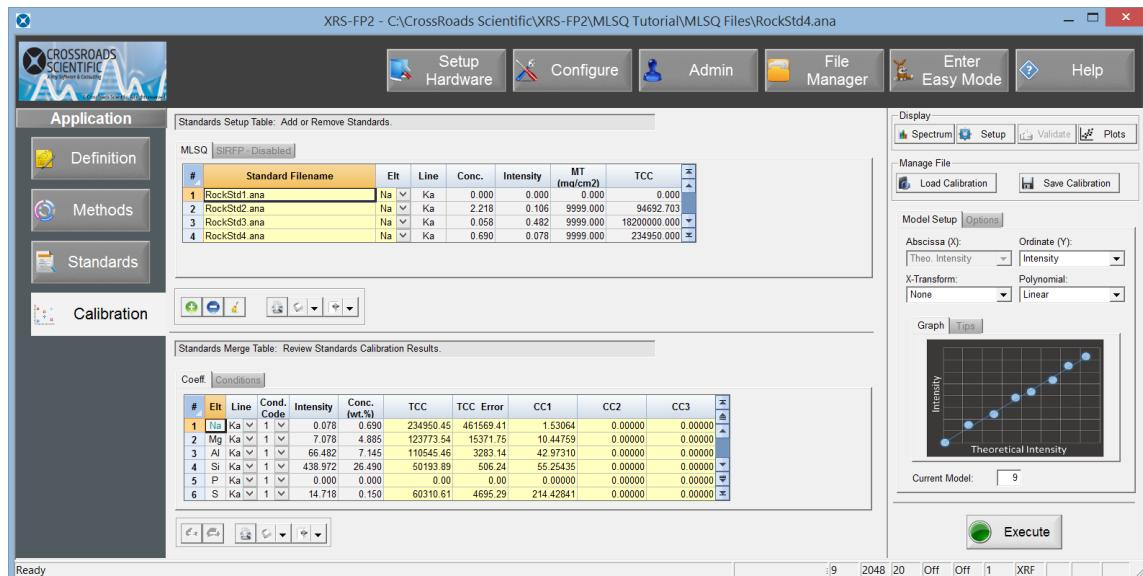

Figure 5. Application Workflow – Calibration. Add all the single standard ANA files to be used for the multipoint calibration (MLSQ).
15. Double click in the MLSQ “Standard Filename” column to load the ANA filename to be used for the MLSQ calibration (eg. “RockStd1.ana”). To add additional ANA files (standards) simply use the down-arrow key or select the plus button to add a row. Then load “RockStd2.ana” and subsequently use the same method for the other two standards, “RockStd3.ana” and “RockStd4.ana”. See Figure 5 below.